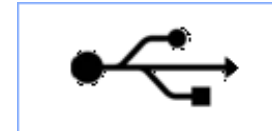

Fig.10
- screen displays *Fig.10* indicating connection successful